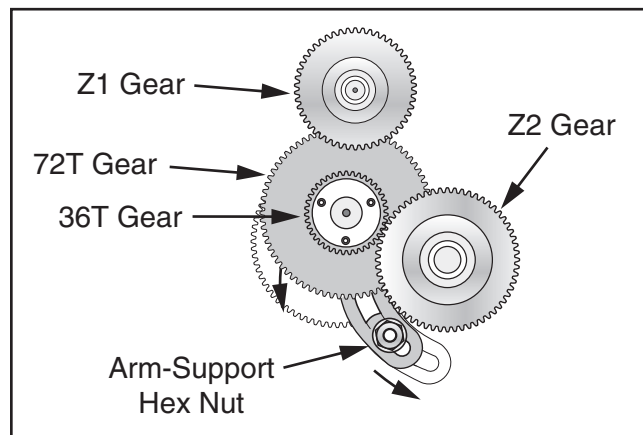

Figure 85. End gear placement.
6. Slide the Z2 gear out on its shaft so the outer Z2 gear meshes with the 36T change gear (see **Figure 85**).